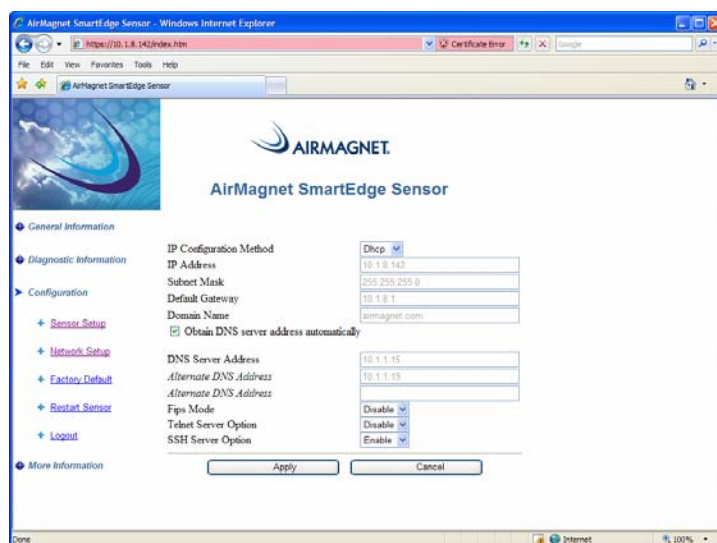

Figure 2-18: AirMagnet SmartEdge Sensor page (4)
- 17) Upon Sensor reboot, click **Network Setup**. The Sensor Information Page refreshes. See Figure 2-18.